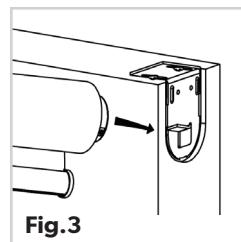

Fig.3
6. Install the right side of the roller by inserting the tab on the right bracket into the roller. (Fig.3)